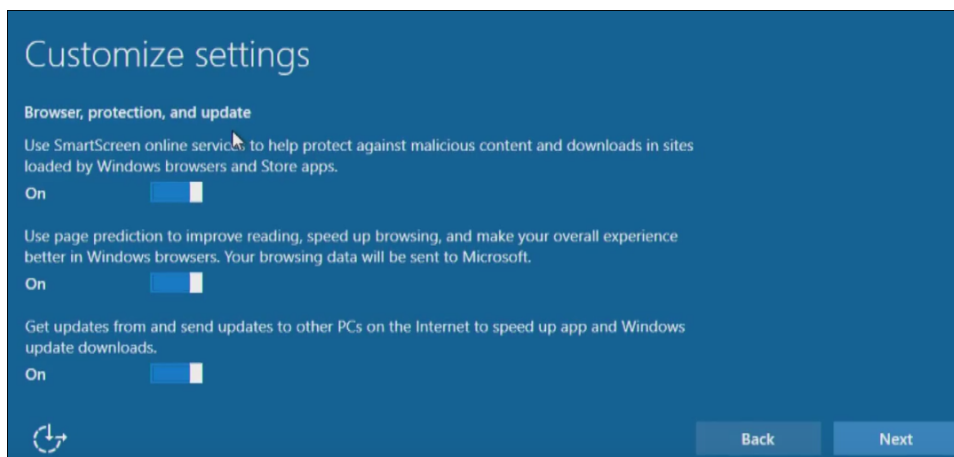

Figure 2-10. Customize Settings dialog—Browser, protection, and update section
5. In the Browser, protection, and update section of the Customize Settings dialog, turn off all settings and click **Next** (Figure 2-10).